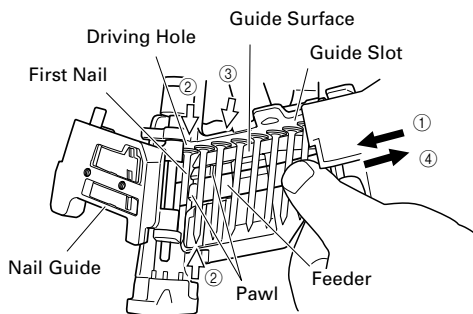

Fig. 4
- (4) Close the magazine cover.
- (5) ① Uncoil enough nails to reach the driving hole.
② Insert the first nail into the driving hole and the second nail between the two pawls of the feeder.
③ Fit the nail heads in the guide slot. (Fig. 4)